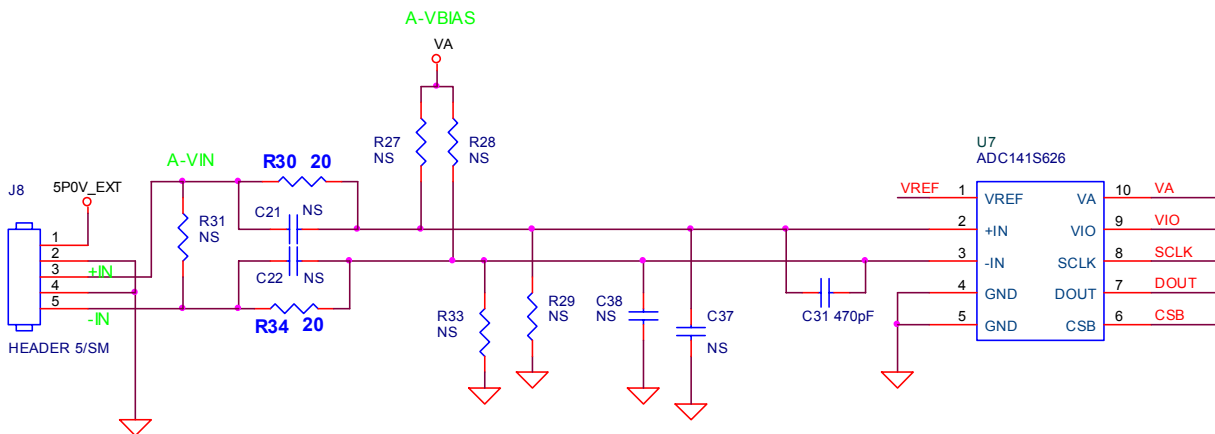

Figure 3 – Schematic to Drive ADC with a DC-Coupled Input Signal
- b. To create a dc-coupled input signal, stuff R30 and R34 with 20 Ω resistors but leave C21, C22, R27, R28, R29, and R33 unpopulated. Figure 3 shows the schematic for driving the ADC input with a dc-coupled signal.
- b. To create a dc-coupled input signal, stuff R30 and R34 with 20 Ω resistors but leave C21, C22, R27, R28, R29, and R33 unpopulated. Refer to figure 3 for the schematic.
To properly create a dc-coupled input signal, stuff R30 and R34 with 20 Ω resistors. However, leave capacitors C21, C22, and resistors R27, R28, R29, and R33 unpopulated. A schematic of this explanation can be seen in figure 3.